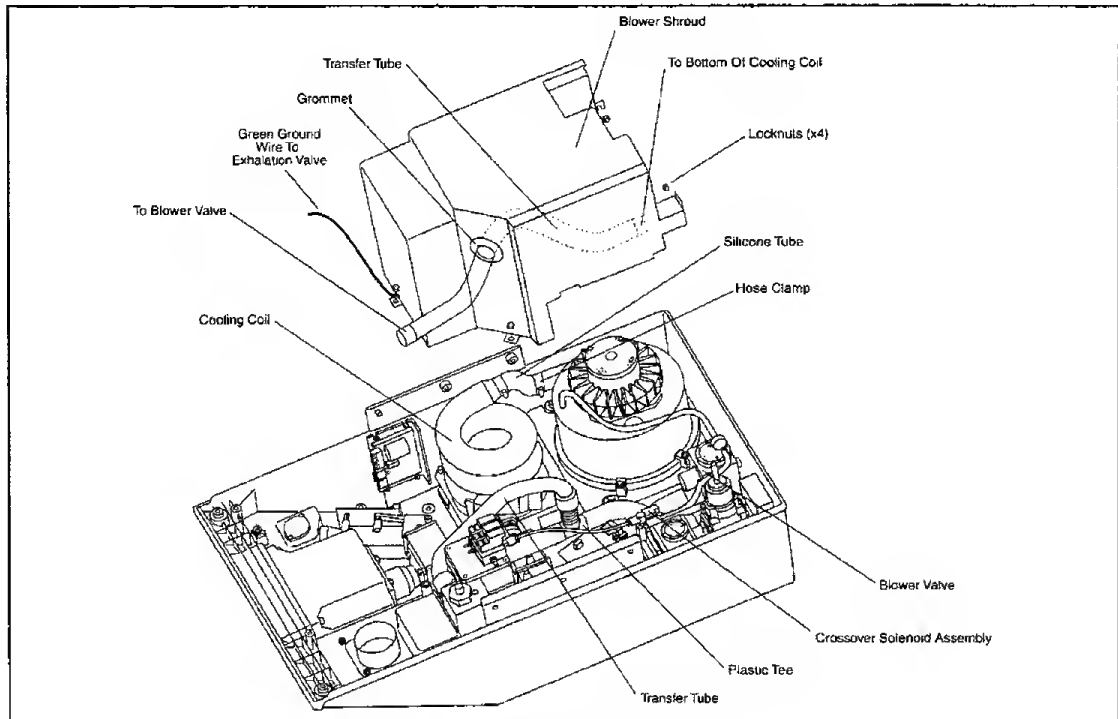

Figure 7-30: Blower Shroud
(Refer to Figure 7-30 unless specified otherwise)
4. Disconnect the transfer tube from the bottom of the Cooling Coil (see Figure 7-30).
5. Connect the transfer tube to the bottom of the Cooling Coil (see Figure 7-30).